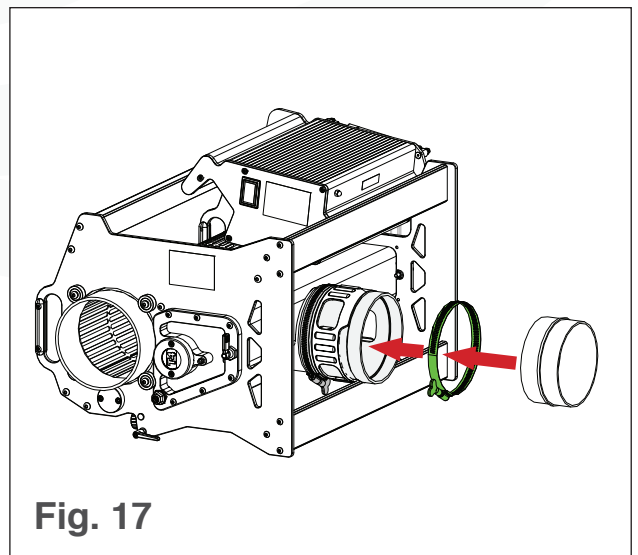

Fig. 17
6. Place another hose clamp over the free end of the coupling (see Fig. 17).
7. Slide the coupling adapter into the vacuum attachment coupling (see Fig. 17).